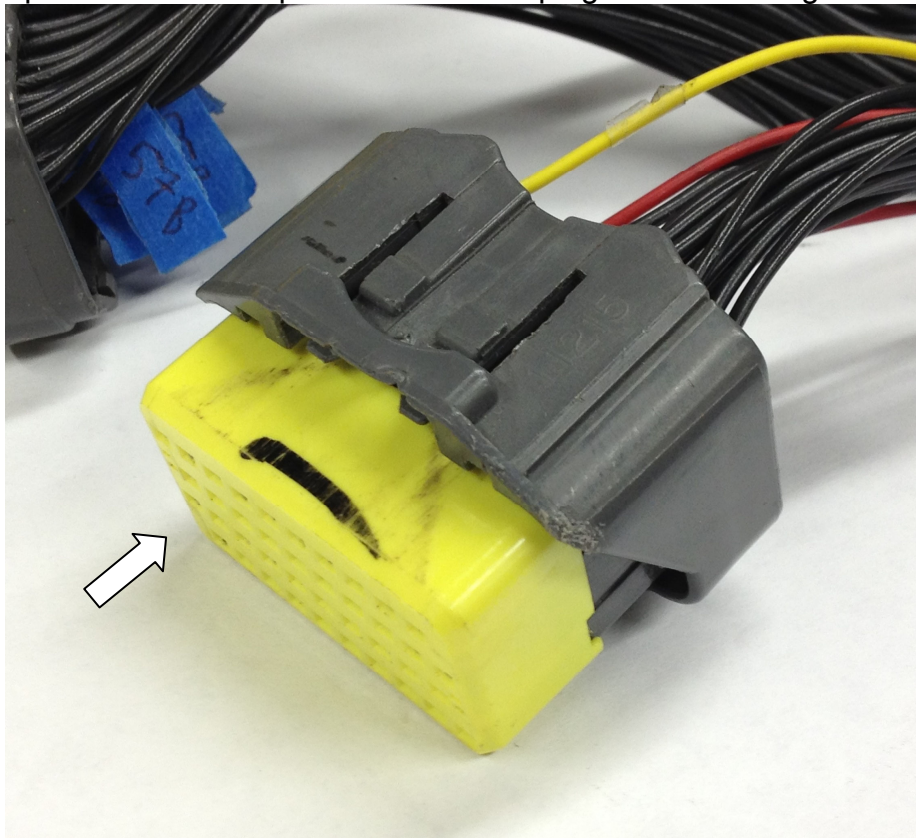

Figure 8: Ensure pin lock is relocked
6. Push the pin lock back into place on the ECU plug as shown in figure 8: